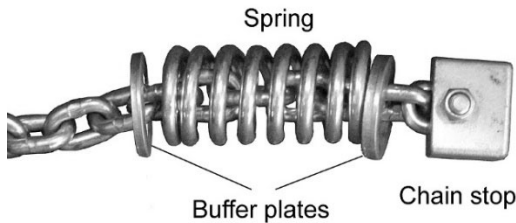

Figure 13-1
4. On the slack side of the chain, remove the chain stop, spring, and plates (Figure 13-1). Keep these handy for later re-installing.
9. Install the chain stop, spring and plates (Figure 13-1) on the slack end of the chain.
4. On the slack end of the chain, remove the chain stop, spring, and plates (Figure 13-1). Keep these handy for later re-installing.
10. Install the chain stop, spring, and plates (Figure 13-1) on the slack end of the chain.